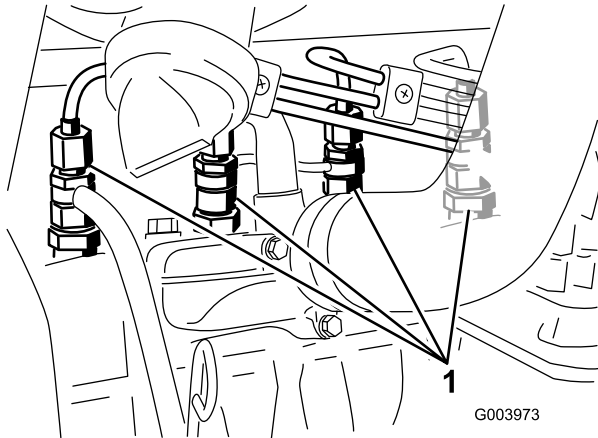

Figure 36
1. Loosen the pipe connection to the No. 1 nozzle and holder assembly (Figure 36).